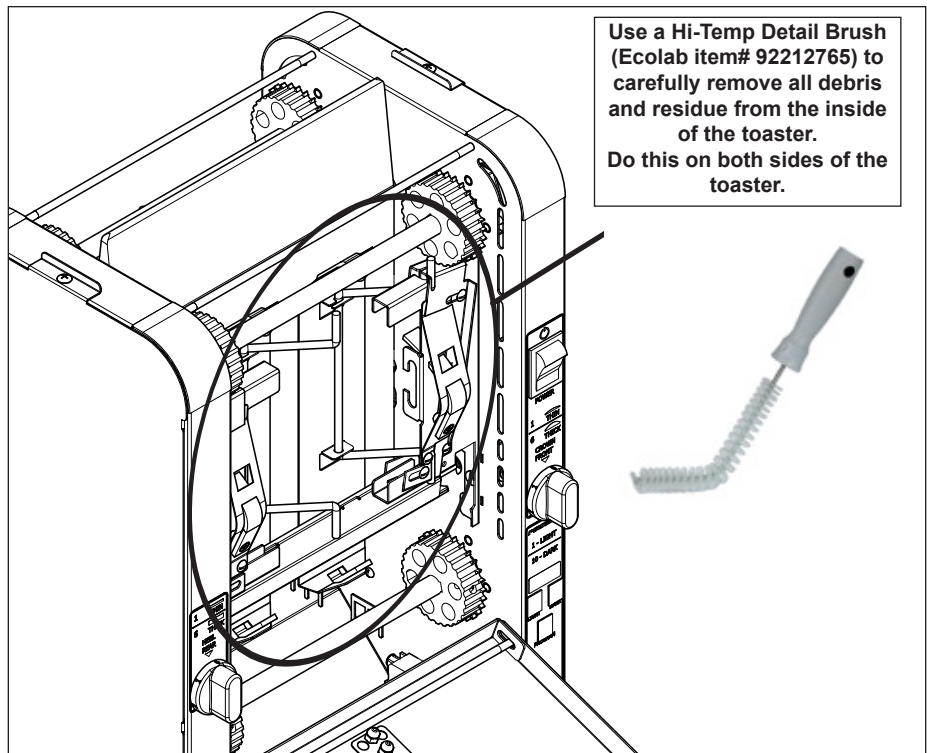

Figure 20. Remove all debris and residue with detail brush
7. Use Hi-Temp Detail Brush (Ecolab item# 92212765) to carefully remove all debris and residue from the inside components of the toaster (Figure 20). Do this on both sides of the toaster.